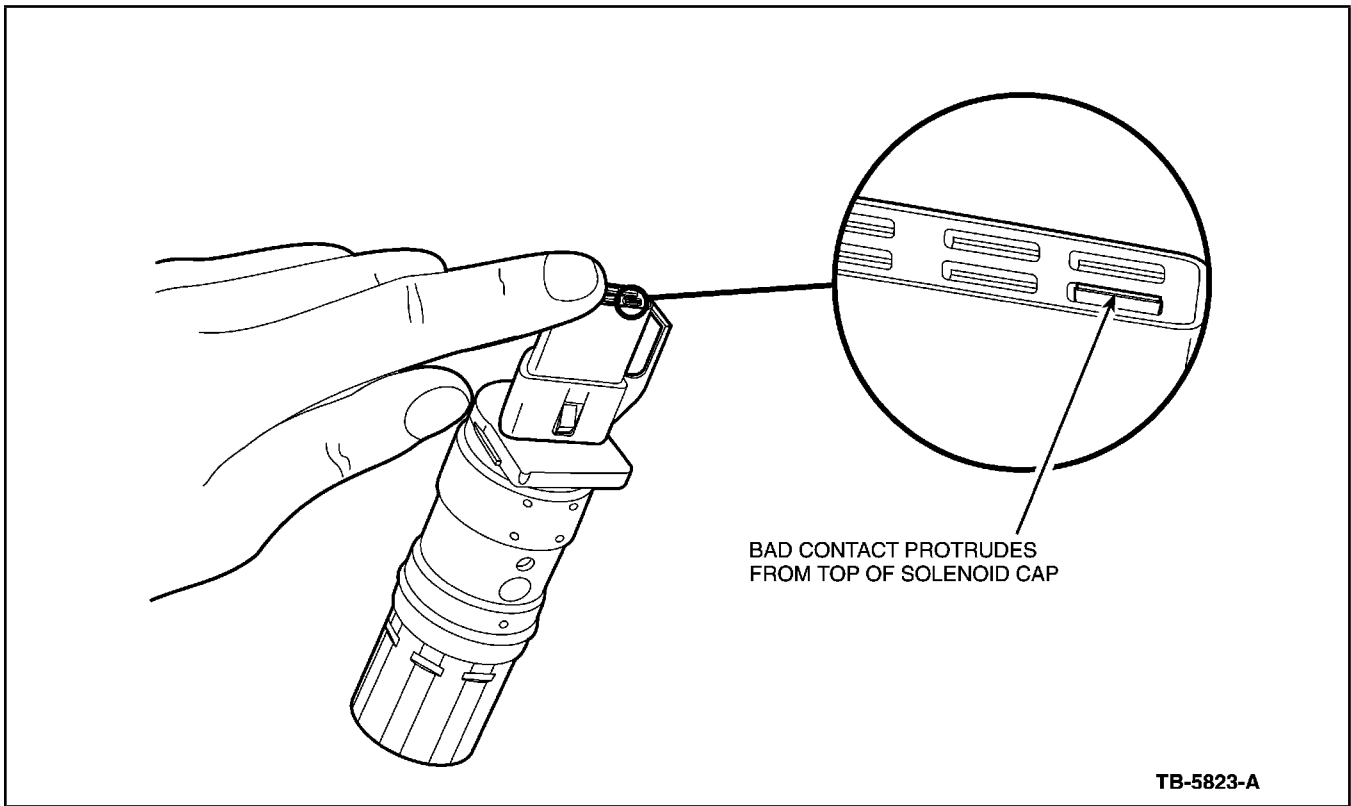
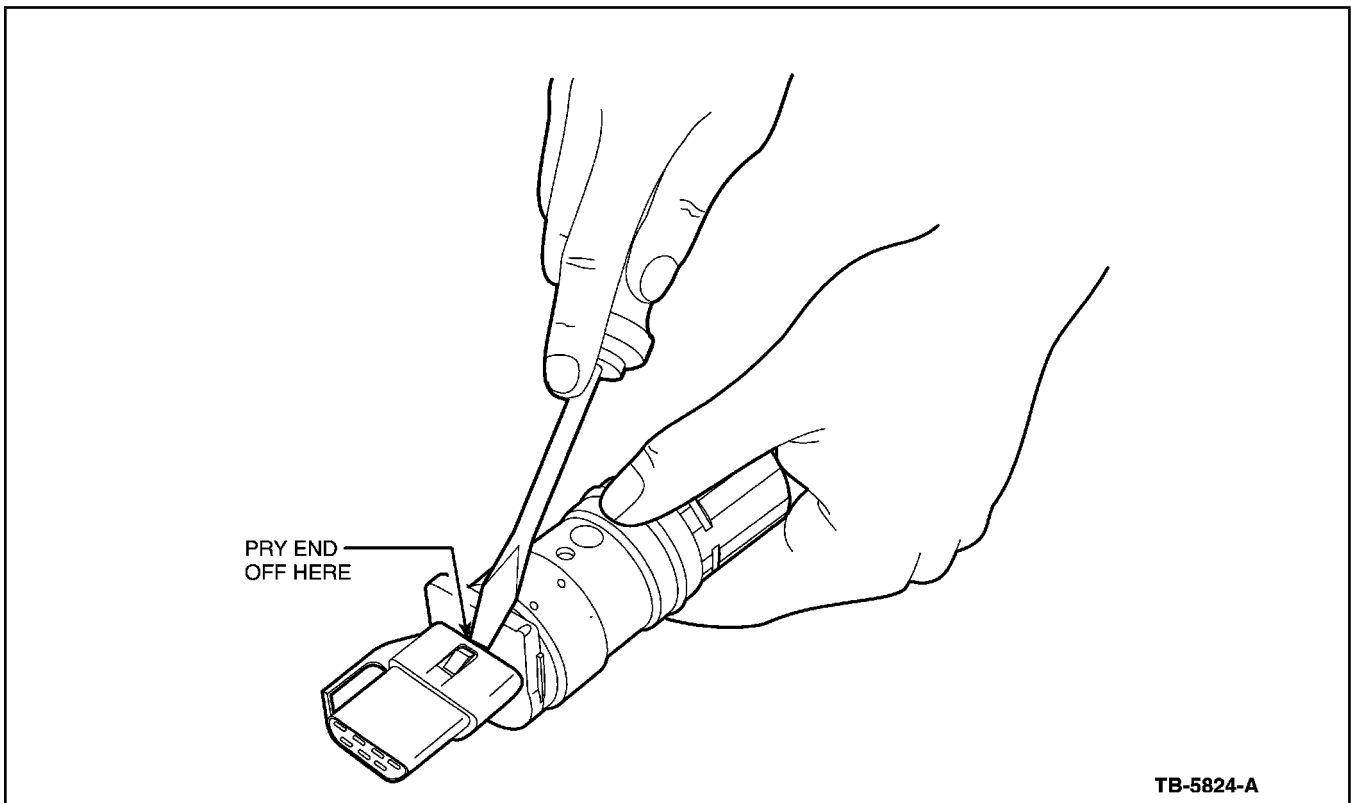
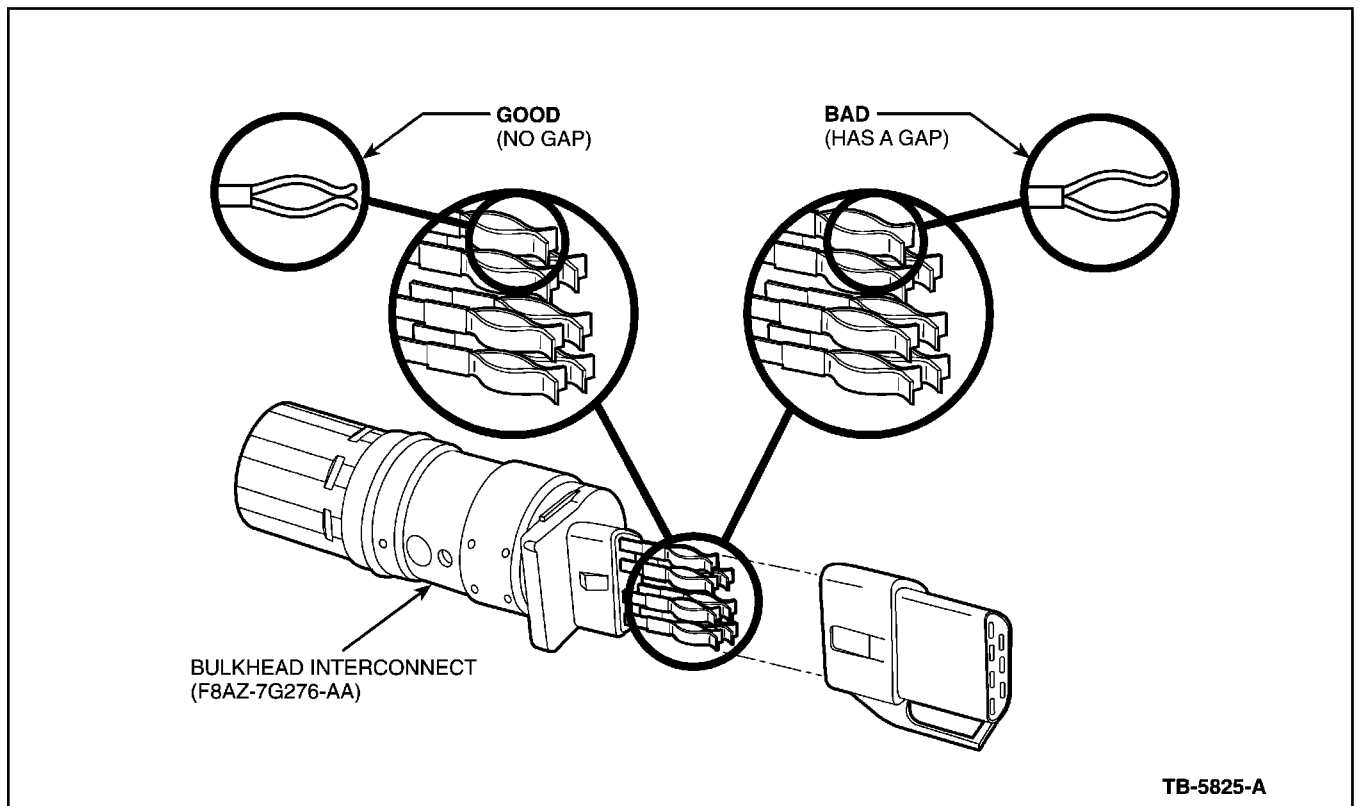

Figure 2 - Article 99-19-7
Figure 3 - Article 99-19-7
Figure 4 - Article 99-19-7
4. With the bulkhead interconnect removed, push down on the terminal cover and check to see if any of the terminals are slightly protruding above the plastic cover (Figure 2). Gently pry off the terminal cover using a small screwdriver (Figure 3). With the terminal cover off, inspect the bulkhead interconnect for spreading terminals (Figure 4). If the bulkhead interconnect terminals are spread or slightly protruding above the plastic cover, replace with a new Bulkhead Interconnect (F8AZ-7G276-AA).